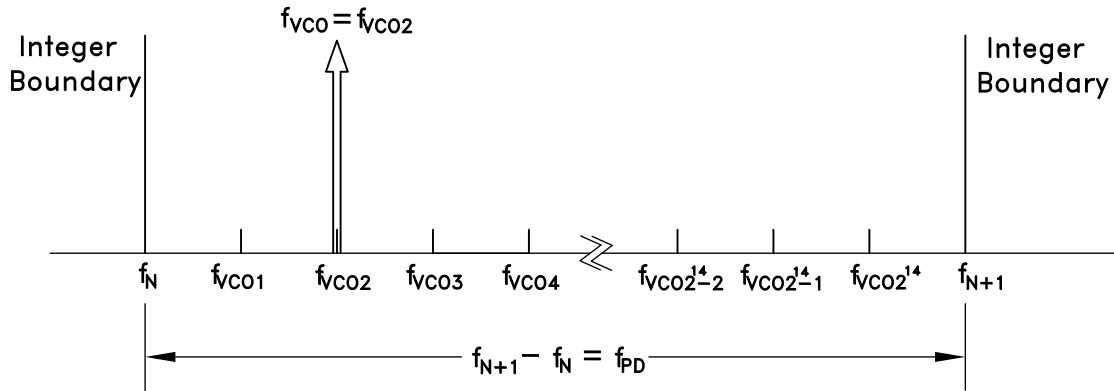

Figure 23. Exact Frequency Tuning
and  $f_{VCOk}$  are the channel step frequencies where  $0 < k < 2^{24}-1$ , As shown in Figure 23.
Some fractional PLLs are able to achieve this by adjusting (shortening) the length of the Phase Accumulator (the denominator or the modulus of the Delta-Sigma modulator) so that the Delta-Sigma modulator phase accumulator repeats at an exact period related to the interval frequency ( $f_{VCOk} - f_{VCO(k-1)}$ ) in Figure 23. Consequently the shortened accumulator results in more frequent repeating patterns and as a result often leads to spurious emissions at multiples of the repeating pattern period, or at harmonic frequencies of  $f_{VCOk} - f_{VCO(k-1)}$ . For example, in some applications, these intervals might represent the spacing between radio channels, and the spurious would occur at multiples of the channel spacing.
If it is desirable to have multiple, equally spaced, exact frequency channels that fall within the same interval (ie.  $f_N \leq f_{VCOk} < f_{N+1}$ ) where  $f_{VCOk}$  is shown in Figure 23 and  $1 \leq k \leq 2^{14}$ , it is possible to maintain the same integer-N (Reg 03h) and exact frequency register (Reg 0Ch) settings and only update the fractional register (Reg 04h) setting. The Exact Frequency Channel Mode is possible if (EQ 17) is satisfied for at least two equally spaced adjacent frequency channels, i.e. the channel step size.
To configure Hittite PLL for Exact Frequency Channel Mode, initially and only at the beginning, integer (Reg 03h) and exact frequency (Reg 0Ch) registers need to be programmed for the smallest  $f_{VCO}$  frequency ( $f_{VCO1}$  in Figure 23), as follows:
1. Calculate and program the integer register setting  $\text{Reg 03h} = N_{INT} = \text{floor}(f_{VCO1}/f_{PD})$ , where  $f_{VCO1}$  is shown in Figure 23 and corresponds to minimum channel VCO frequency. Then the lower integer boundary frequency is given by  $f_N = N_{INT} \cdot f_{PD}$ .
$$\text{Reg04h} = N_{FRAC} = \text{ceil} \left( \frac{2^{24} (f_{VCOk} - f_N)}{f_{PD}} \right) \quad \text{where } f_N = \text{floor}(f_{VCO1}/f_{PD}), \text{ and } f_{VCO1}, \text{ as shown in Figure 23, represents the smallest channel VCO frequency that is greater than } f_N.$$
4. To change from channel 1 ( $f_{VCO1} = 2000.2$  MHz) to channel 2 ( $f_{VCO2} = 2000.3$  MHz), only Reg 04h needs to be programmed, as long as all of the desired exact frequencies  $f_{VCOk}$  (Figure 23) fall between the same integer-N boundaries ( $f_N < f_{VCOk} < f_{N+1}$ ). In that case